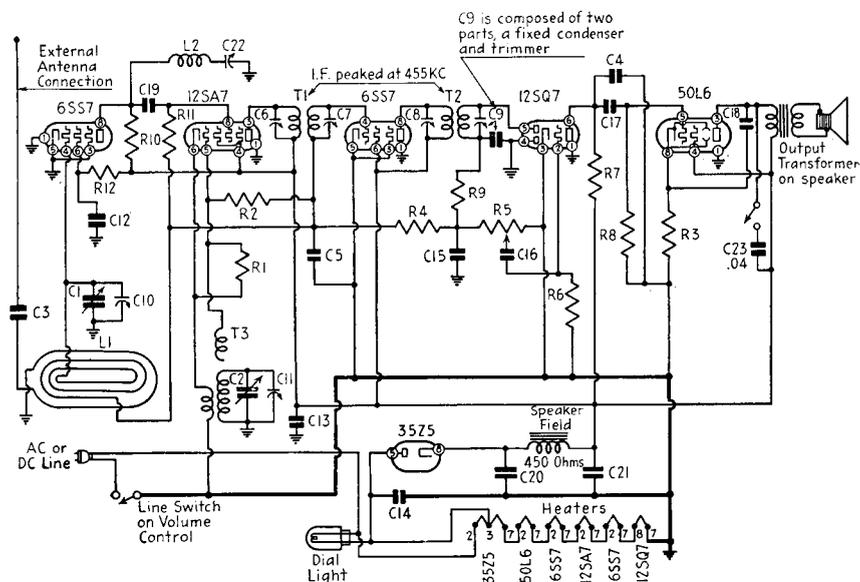

FIG. 10-13. Schematic diagram for Emerson Model G B receiver.
A modern trend in the use of tone controls is to replace the variable resistor *R-112* with a switch, thereby making a 2-point tone control. An example of this is shown in Fig. 10-13. Note the tone condenser *C-23* and its associated switch in the plate circuit of the 50L6 tube. When the switch is open, there is no shunting action, and this is the treble position.
In Fig. 10-13, the cathode by-pass condenser has been omitted to provide degeneration through self-bias resistor  $R-3$ , which is common to both the input and output circuits of the 50L6 tube. Since the input and output circuits of a tube are 180 deg out of phase, degeneration is automatic. Condenser  $C-18$ , the high-frequency by-pass condenser, is returned directly to cathode rather than to ground, so that the degenerative effect is greater at the higher frequencies (especially the high harmonic frequencies), thereby making for more uniform response for the
7. The receiver of Fig. 10-13 begins to distort after it has been playing for 15 min. What would you suspect is wrong? How would you confirm your suspicion?
9. The receiver of Fig. 10-13 is brought in as dead and gives the following voltage readings for the second AF stage: